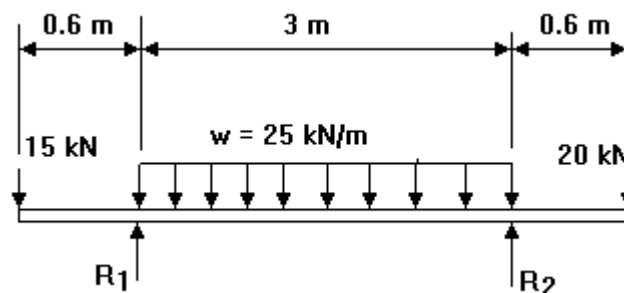

Figure 42
5. A horizontal beam 4.2 m long, resting on two simple supports 3.0 m apart, carries a uniformly distributed load of 25 kN/m between the supports with concentrated loads of 15 kN and 20 kN at the ends, as shown in fig. 42.